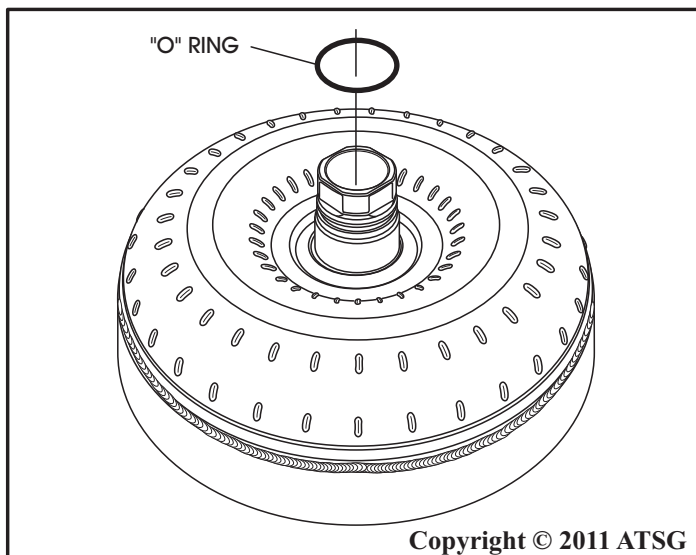

Figure 169
59. Install new "O" ring seal on torque converter hub as shown in Figure 169, and lube hub with ATF.